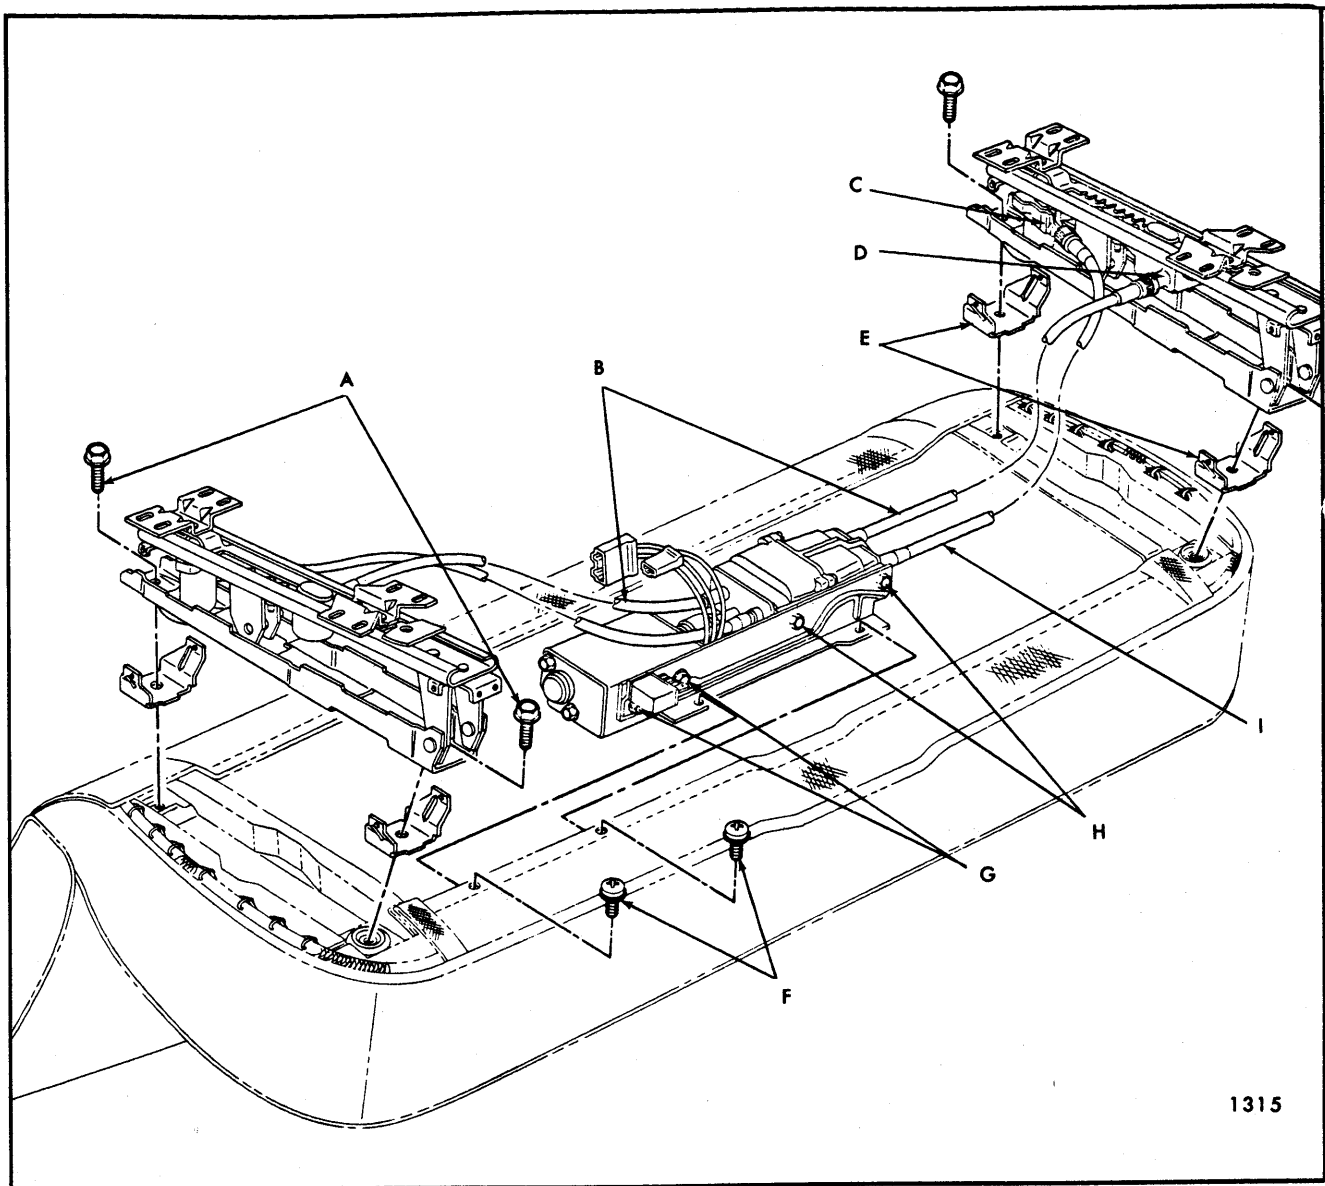

Fig. 10-10—Front Seat Assembly - Four-Way Tilt - Buick "B, C & E" Styles
5. To install seat adjuster assembly, reverse removal procedure. On seats with adjuster track covers, make sure track cover supports are installed between adjuster and seat frame (Fig. 10-10, 10-12 and 10-11). Check operation of seat adjusters and make sure adjusters are